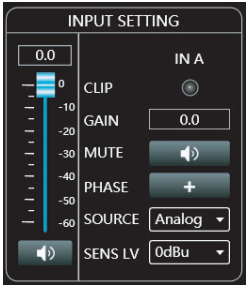

Figure 1.5
① As shown in figure 1.5, the Master Volume Fader can be adjusted either by Dragging with the mouse, or entering precise values directly in the input field 0.0. is Mute control.